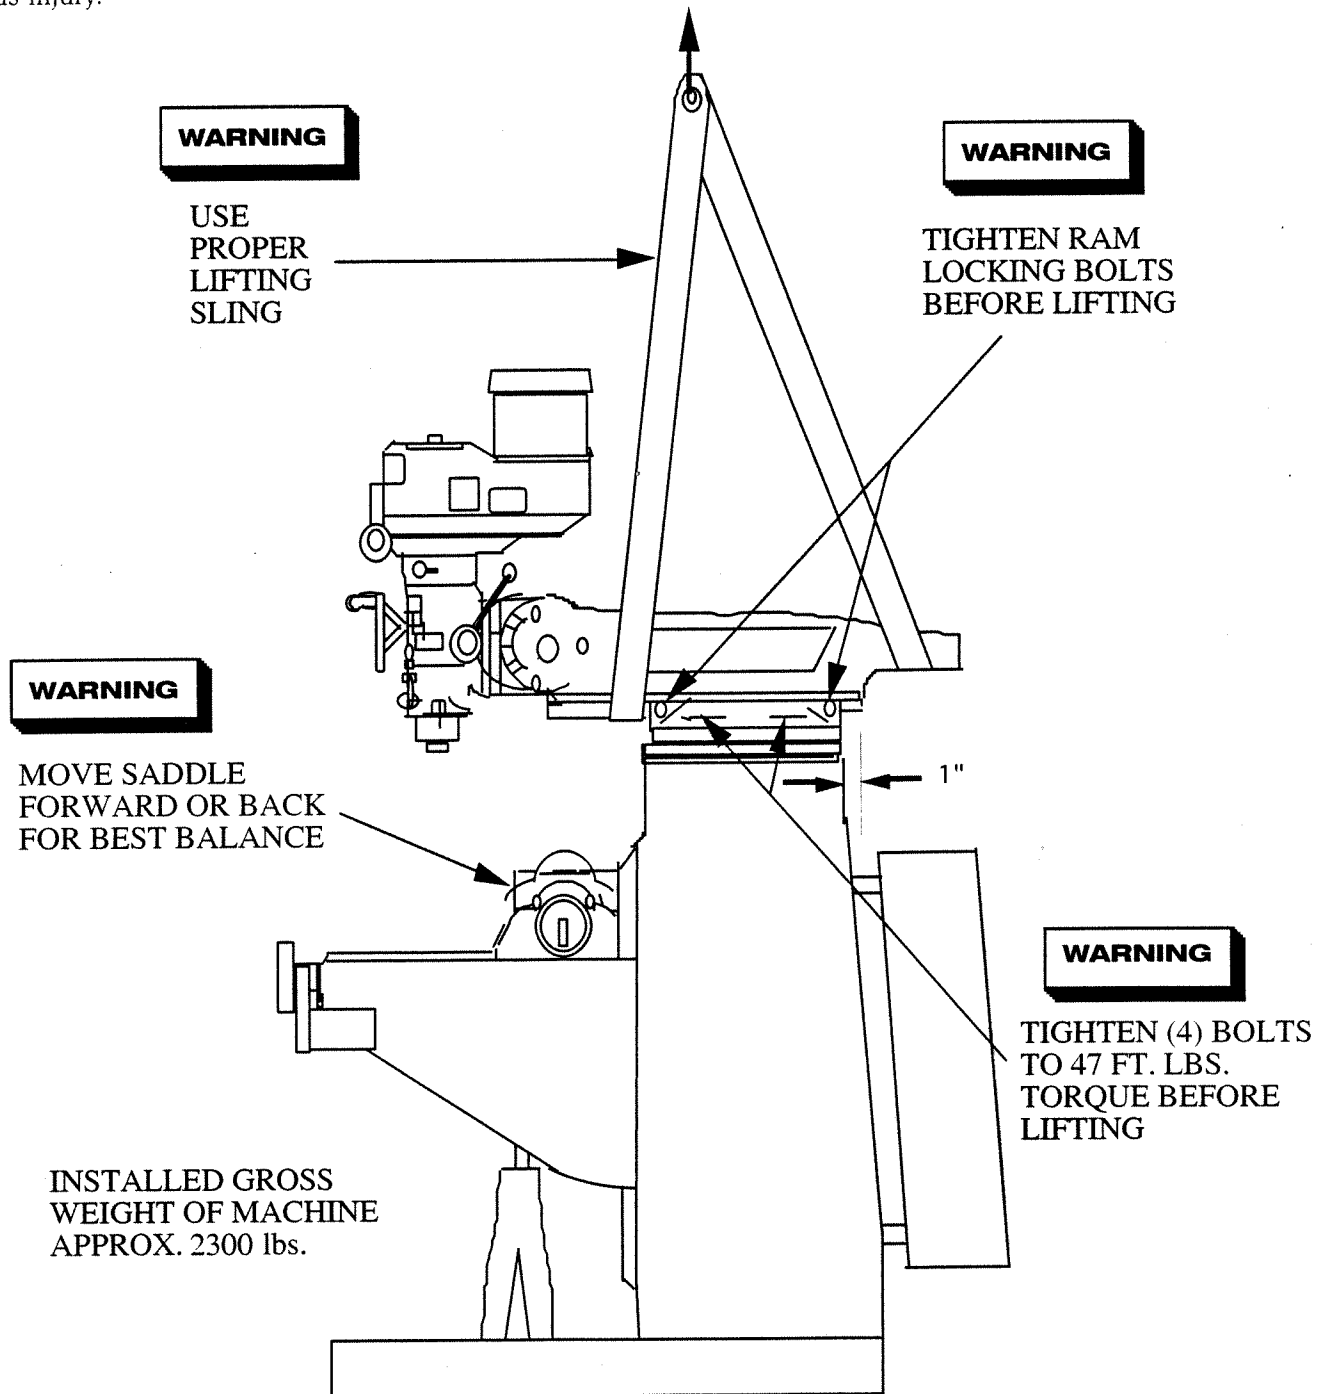

Figure 3-4. Lifting the Machine
3.5 LIFTING THE MACHINE (Figure 3-4)